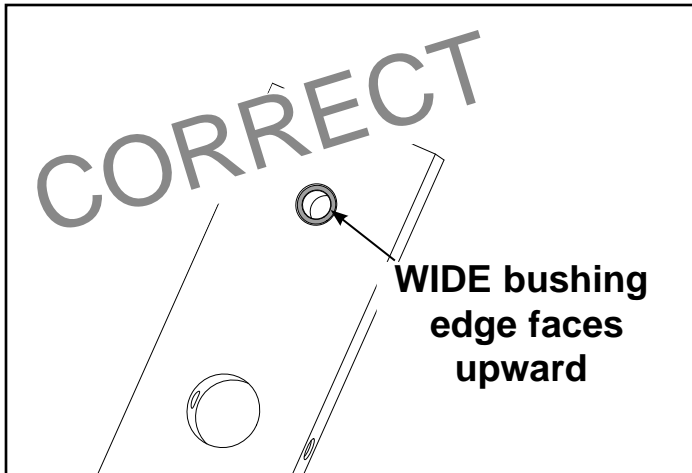

Figure 7A
- H. Carefully install each weight plate one at a time. **NOTE:** When installing weight plates, position plates so wide edges of bushing face upward and narrow edges of bushing face downward. See Figures 7A and 7B.